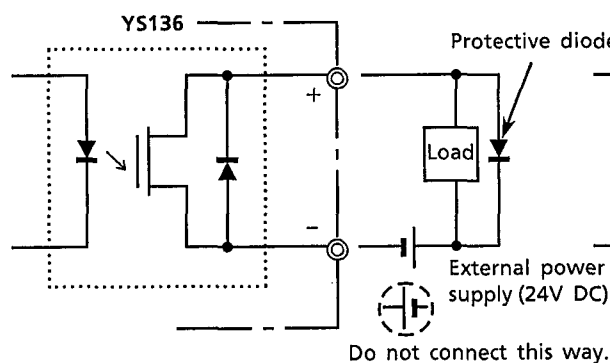

Figure 3.8 Connection Using the Status Output
- Be sure to connect a protective diode (surge absorber) in parallel with the load when driving an inductive load such as a relay (see Figure 3.8).
- To connect the power supply which is to be used to drive the load, match the polarity of the power supply with the polarity marked on the terminal board (see Table 3.1 for terminal assignment) (see also Figure 3.8).